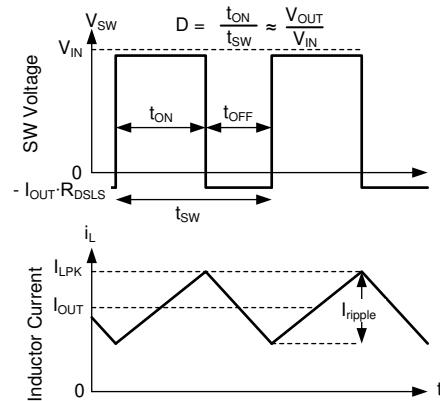

Figure 23. SW Voltage and Inductor Current Waveforms in Continuous Conduction Mode (CCM)
The following operating description of the LM61440-Q1 refers to the Functional Block Diagram and to the waveforms in Figure 23. In CCM, the LM61440-Q1 supplies a regulated output voltage by turning on the internal high-side (HS) and low-side (LS) NMOS switches with varying duty cycle (D). During the HS switch on-time, the SW pin voltage, V_{SW} , swings up to approximately V_{IN} , and the inductor current, i_L , increases with a linear slope. The HS switch is turned off by the control logic. During the HS switch off-time, t_{OFF} , the LS switch is turned on. Inductor current discharges through the LS switch, which forces the V_{SW} to swing below ground by the voltage drop across the LS switch. The converter loop adjusts the duty cycle to maintain a constant output voltage. D is defined by the on-time of the HS switch over the switching period: